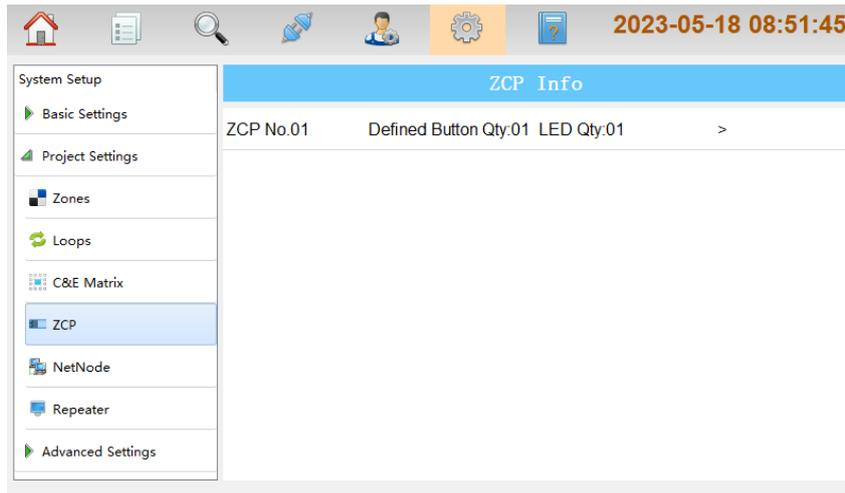

Fig. 4.24
- ZCP: clicking **ZCP** in **Project Settings** menu enters the screen for setting the zone panels. Refer to the figure below Fig. 4.24.